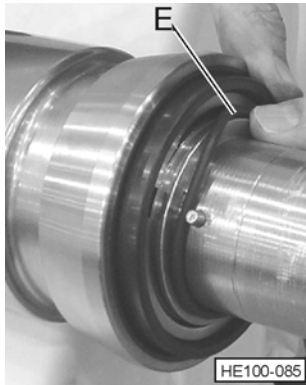

Figure 57 - Install Keeper O-ring
The seal body is held in place on the mutator shaft by two seal drive pins. Each one should be $3/32$ " (+/-0.015) above the stub shaft surface. It is extremely important that these pins are not rounded on the edges and that this dimension is maintained. If the pins are higher than $3/32$ ", the seal will jam; if the pins are too low, the body will rotate. See Figure 57 on page 58.
5. Install the "keeper" o-ring (See Figure 57, Item E) on the shaft to keep the rotating parts assembled.